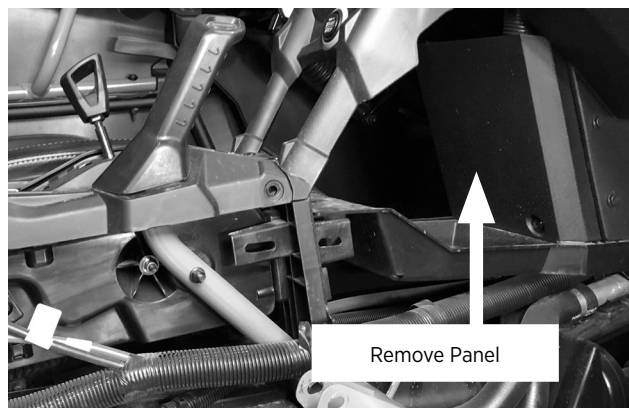

Figure 2b
4. Use a T30 Torx and flat-blade screwdriver to remove the plastic panel between the dash and center console (Figure 2b).